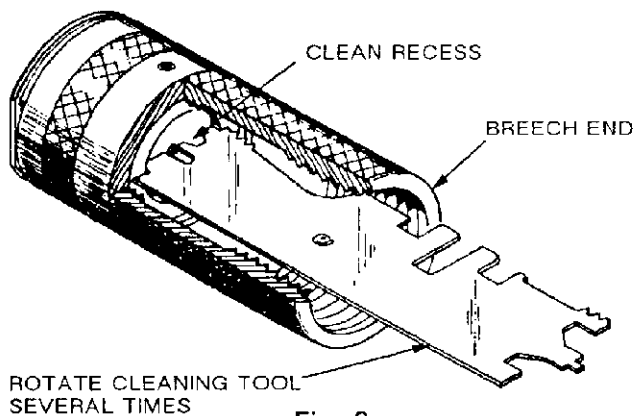

Fig. 9
3. To clean breech end, insert correct end of cleaning tool into front end of sleeve as shown in Figure 9. Rotate tool until recessed surface is clean.